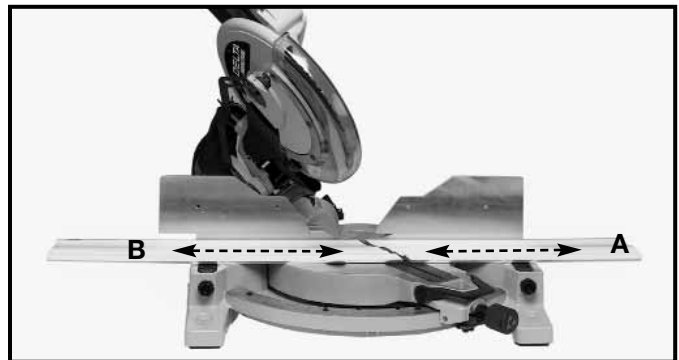
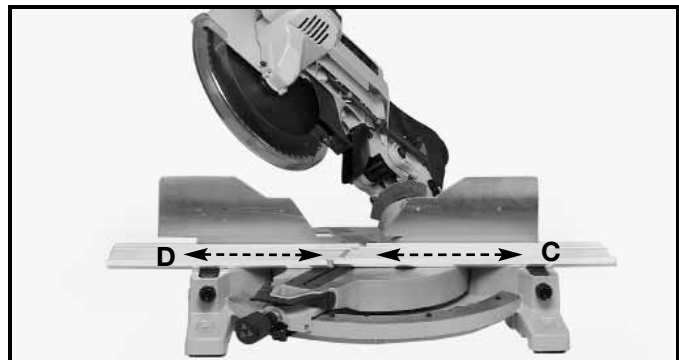
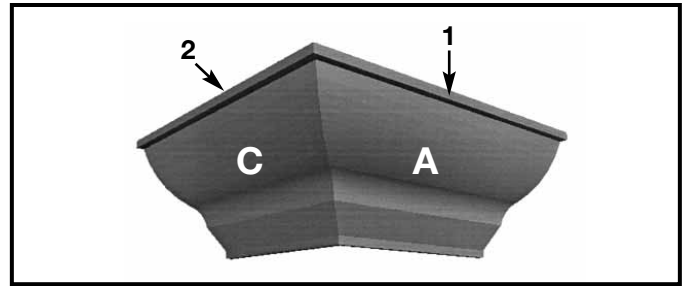
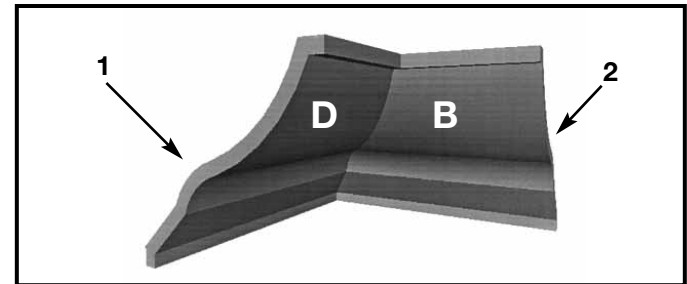

Fig. 47
Fig. 48
Fig. 49
Fig. 50
3. Place the crown moulding on the table with the **CEILING EDGE** of the moulding against the fence, and make the cut, as shown in Fig. 47.
NOTE: The piece of crown moulding used for the outside corner will always be on the right hand side of the blade, as shown at (A) Fig. 47. The piece of crown moulding used for the inside corner will always be on the left hand side of the blade, as shown at (B) Fig. 47.
- Place the crown moulding on the table with the **WALL EDGE** of the crown moulding against the fence and make the cut. Again, the piece of crown moulding used for the outside corner will always be on the right side of the blade, as shown at (C) Fig. 48. The piece of crown moulding used for the inside corner will always be on the left side of the blade, as shown at (D) Fig. 48.
- Fig. 49 illustrates the two outside corner pieces; (1) being the piece cut at (A) Fig. 47 and (2) being the piece cut at (C) Fig. 48.
- Fig. 50 illustrates the two inside corner pieces; (1) being the piece cut at (B) Fig. 47, and (2) being the piece cut at (D) Fig. 48.